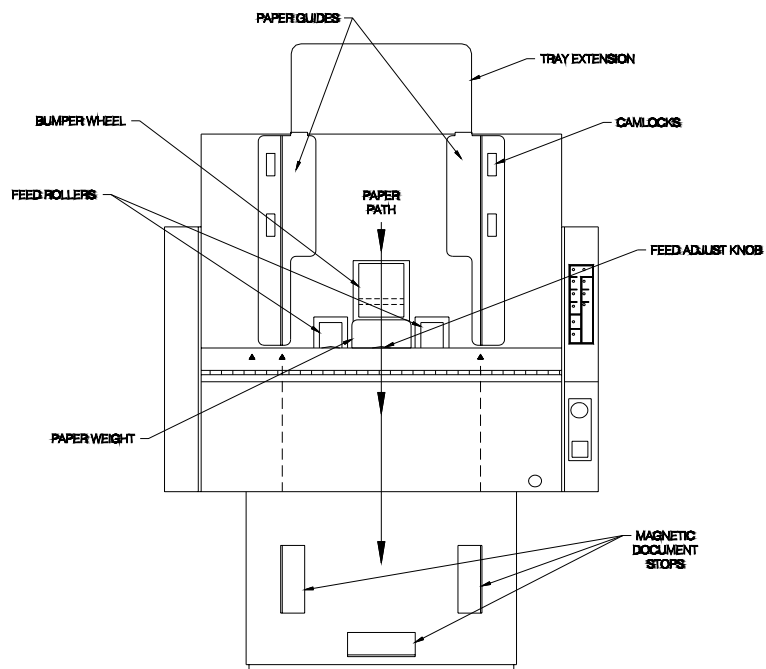

Figure 3.4 -- Paper Path & Document Stops
6. Place the two straight DOCUMENT STOPS in-line with the PAPER GUIDES. (Refer to **Figure 3.4.**)